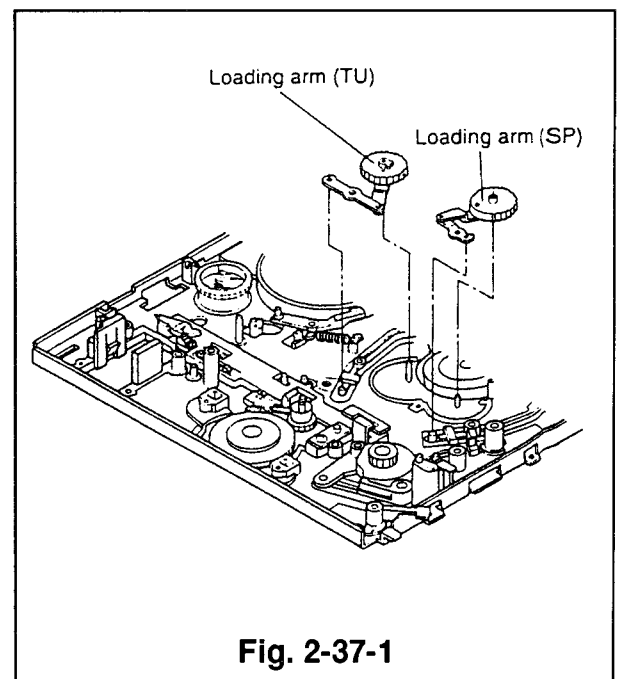

Fig. 2-37-1
- ① Remove the reel belt and the belt pulley. (Refer to Para. 2-28 for the removal method.)
- ② Remove the loading motor assembly (which holds the motor holder). (Refer to Para. 2-29 for the removal method.)
- ③ Remove the main gear-J. (Refer to Para. 2-30 for the removal method.)
- ④ Remove the plate-J, the roller-B, and the cam plate-B. (Refer to Para. 2-33 for the removal method.)
- ⑤ Raise the loading arms upward, first SP and then TU, to remove them. (Refer to Fig. 2-37-1)
- ② Place the new loading arm (TU) in the position shown in Fig. 2-37-1, then place the loading arm (SP) in the position shown in Fig. 2-37-1 at the same time aligning the marks on the cogs, refer Fig. 2-37-3(shaded area).